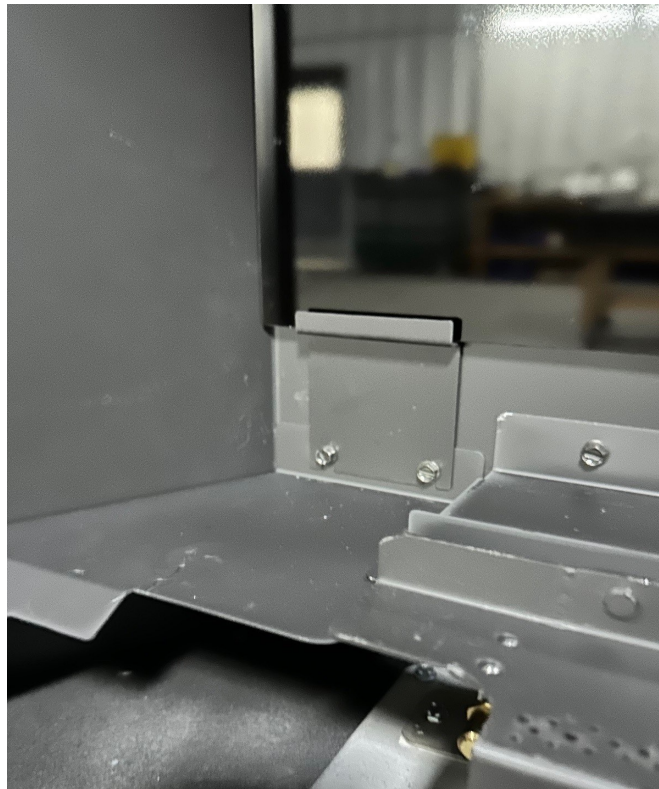

Figure 4 - Rear Glass - Left or Right Support Bracket
- Each side of the fireplace has (2) screws that you will loosen which secure the corner rear glass support brackets. Install the corner brackets first. See Figure 4. Install the rear glass panel by tilting it into the corner brackets.